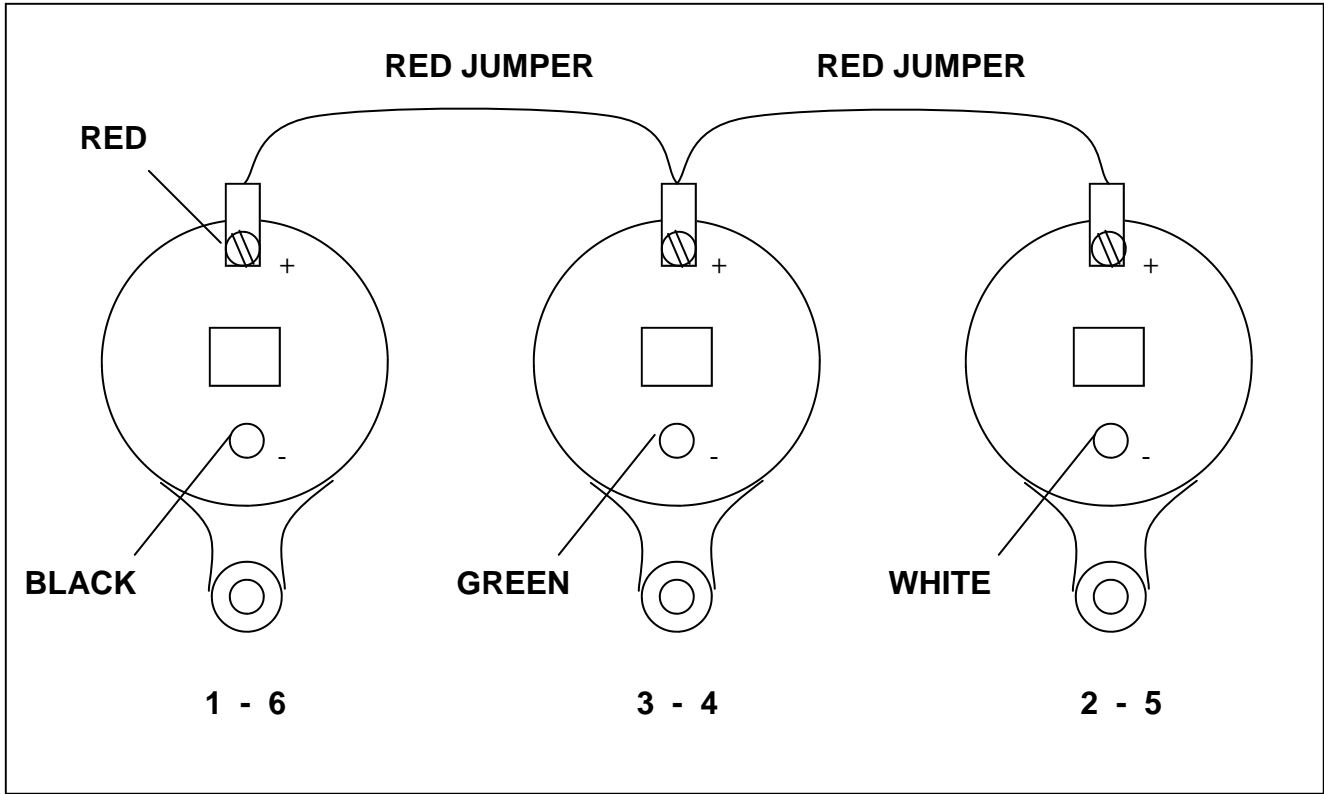

FIG. 1: DYNA IGNITION WITH STOCK COIL INSTALLATION
10. Install the Red Jumper Wire (Supplied) to all Positive Connectors on the Stock Coils as shown in FIG. 1